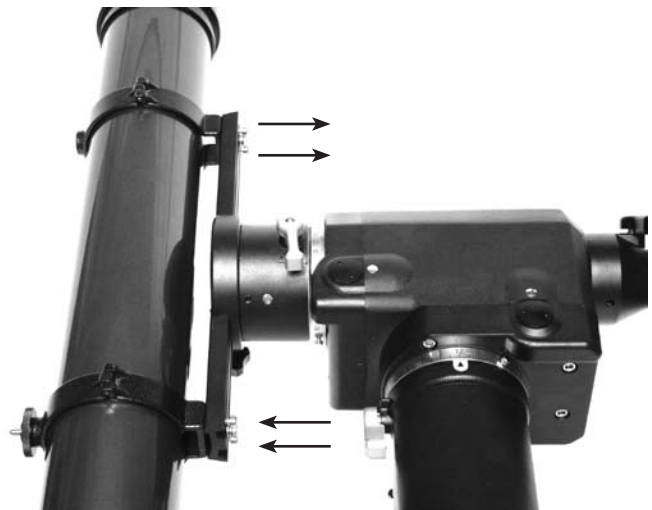
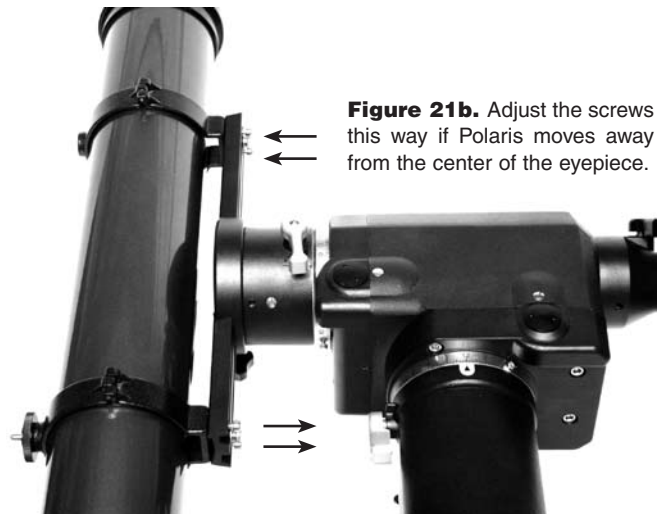

Figure 21a. Adjust the optical axis offset screws this way if Polaris moves toward the center of the eyepiece when the tube is pushed as in Figure 19.
Figure 21b. Adjust the screws this way if Polaris moves away from the center of the eyepiece.
13. Make adjustments to the optical axis offset adjustment screws (the socket head cap screws located at each corner of the mounting plate), according to the results of step 11. If Polaris moves toward the center when the telescope is pushed as indicated in Figure 20, loosen the adjustment screws near the front of the tube and tighten the adjustment screws closer to the back of the tube (Figure 21a). If Polaris moves away from the center when the telescope is pushed as in Figure 20, loosen the adjustment screws near the back of the tube and tighten the adjustment screws closer to the front of the tube (Figure 21b). Look into the eyepiece. Adjust the adjustment screws just enough to place Polaris HALF the distance back to the center of the illuminated reticle eyepiece (Figure 22).